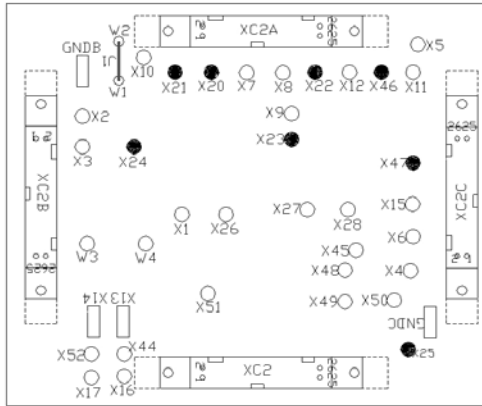
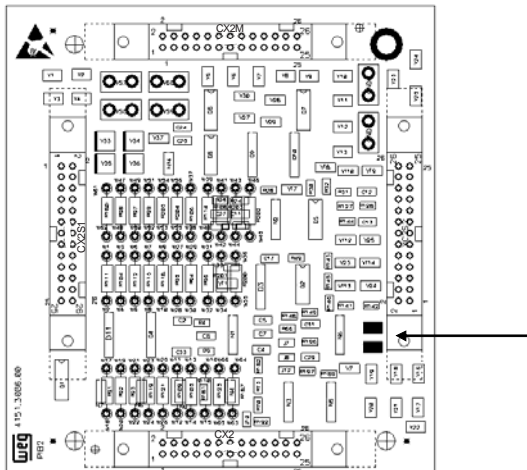

Figure 20 - Test points on the board PIB1
Figure 21 - Test Points at the PIB2 Board
For the 380-480V, check the current feedback signal on the board PIB1 (IVA, IVB, IVC, IVT, IWA, IWB, IWC, IWT). The signals at rated inverter current must be similar to those shown in Figure 21 (test points X23, X24, X47, X25, X20, X21, X46, X22 relating to X44-DGND or X51-DGND; Figure 20).
- ☑ When the 500-600V and 660-690V series are applied, check the current feedback signals at the board PIB2 (IVT, IWT), The signals at rated inverter current must be similar to those shown in Figure 21 (test points X14 and X15 relating to GND of the CC9, Figure 20).